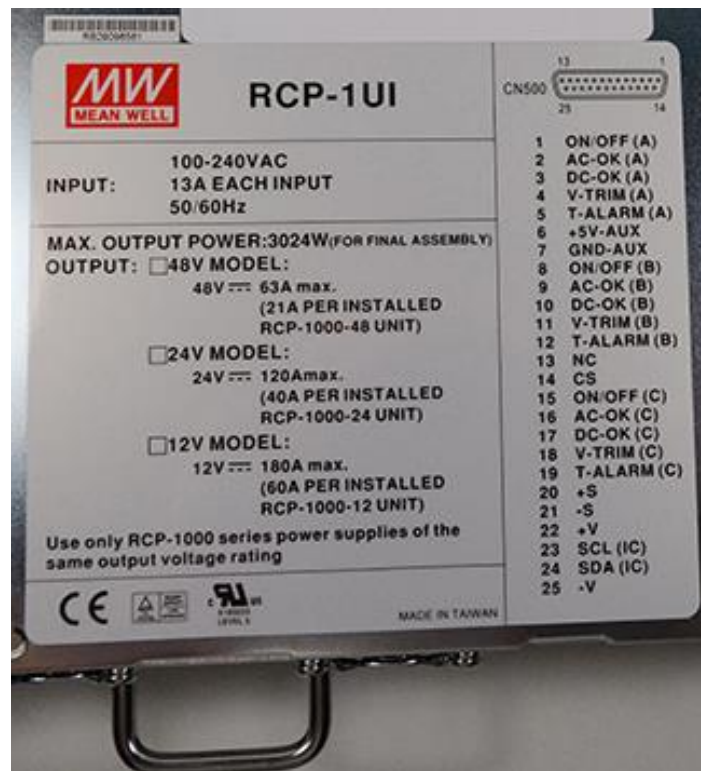

Figure 6-1: Safety Label
- Refer to the safety label as shown in Figure 6-1 on the top of each unit before operating.